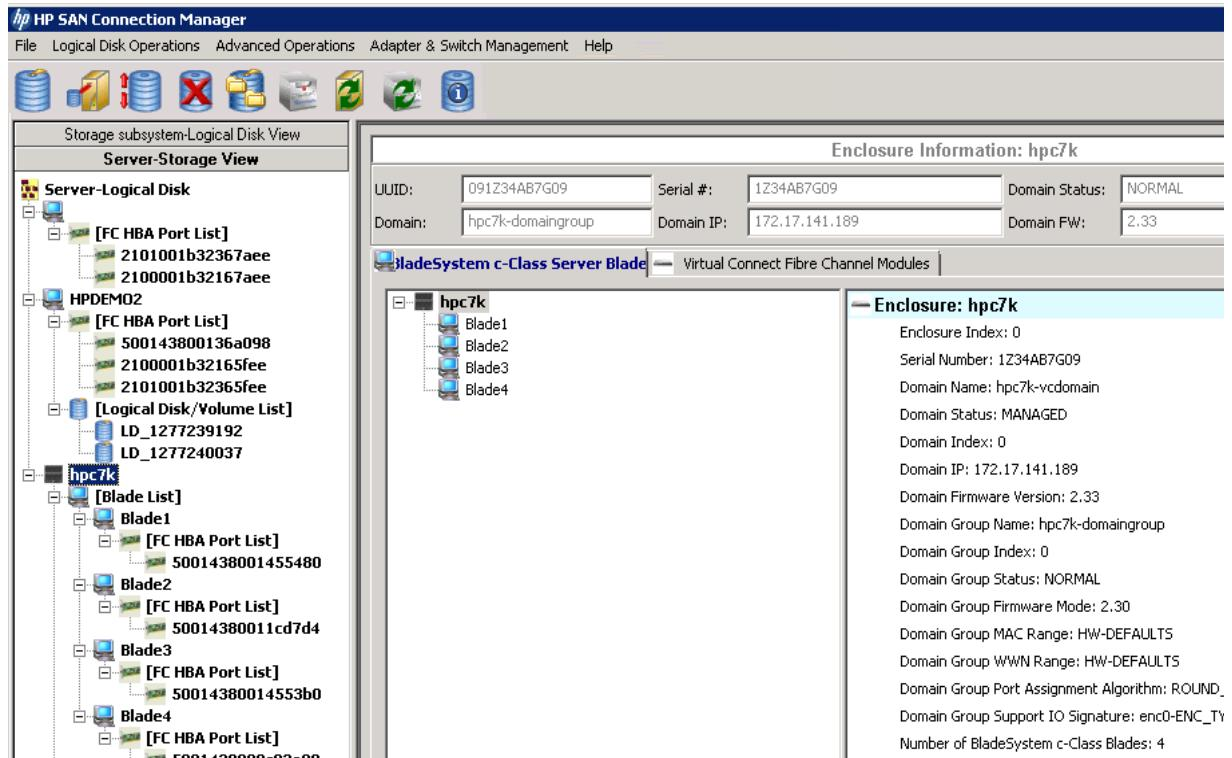

Figure 88 Enclosure Properties Information
1. In the Server-Storage View group of the navigation pane, click the blade you want to view. The content pane (Figure 88) shows the FC blade Information for that blade.